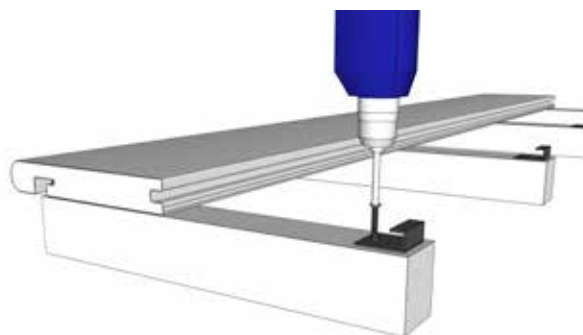

Figure 3
- 4 Install tread inner board fastener as shown in Figure 3: